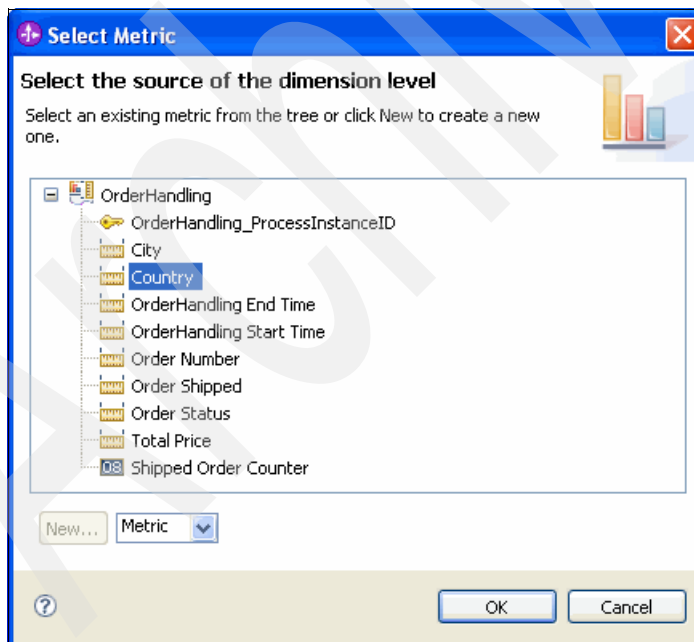

Figure 8-116 Selecting the metric for a dimension level
- b. In the Select Metric window (Figure 8-116), click **Country** and click **OK**.